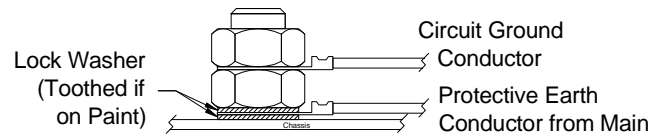

Figure 11 N4X Protective Earth Connector
- b. Locate the ground terminal on the back plate of the N4X enclosure (Figure 11).